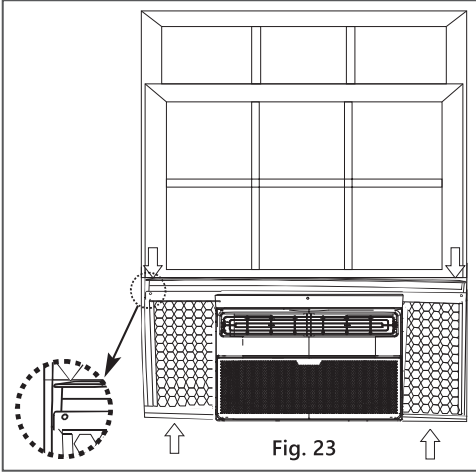

Fig. 23
- E. In order to minimize air leaks between the room air conditioner and the window opening, trim the weather stripping to the proper length, peel off the protective backing and plug any gaps if needed (Fig. 23).